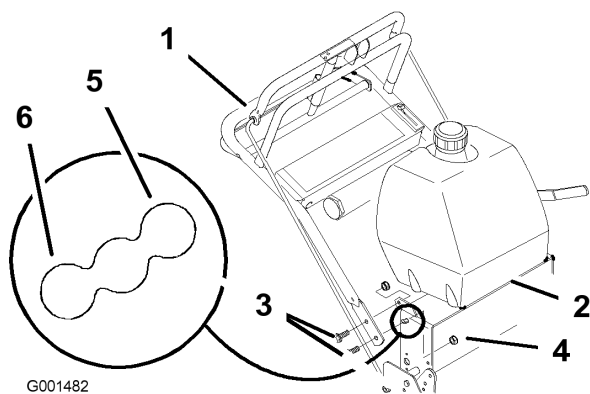

Figure 16
2. Loosen the upper flange bolts (3/8 x 1 inch) and flange nut securing handle to rear frame (Figure 16).
3. Remove the lower flange bolts (3/8 x 1 inch) and flange nuts securing handle to rear frame (Figure 16).